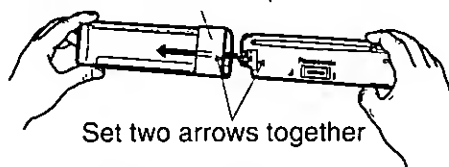

Fig.3
- ④ As shown in Fig.3, insert the removable face plate with the arrow pointing toward the removable face plate case until you hear a "click". Keep the removable face plate in the case. Then, you can bring the plate safety.
⑤ Removable face plate case